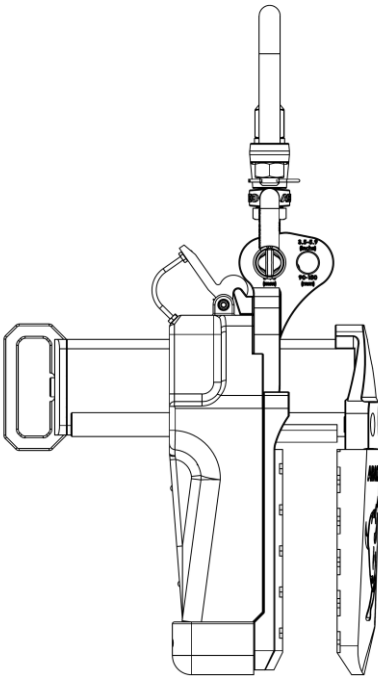

Figure 1.1
- Hook the Swivel Shackle at position 1 when the slab thickness is from  $\frac{3}{16}$ " (5mm) to  $3\frac{9}{16}$ " (90mm) (Figure 1.1).